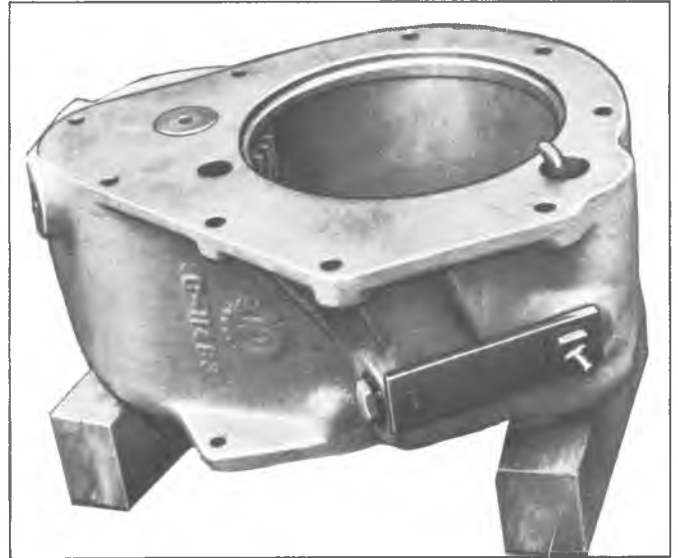

Fig. 21F—Positioning Range Box for Assembly
1. Place range box on blocks, with input gear side toward bench (fig. 21F).